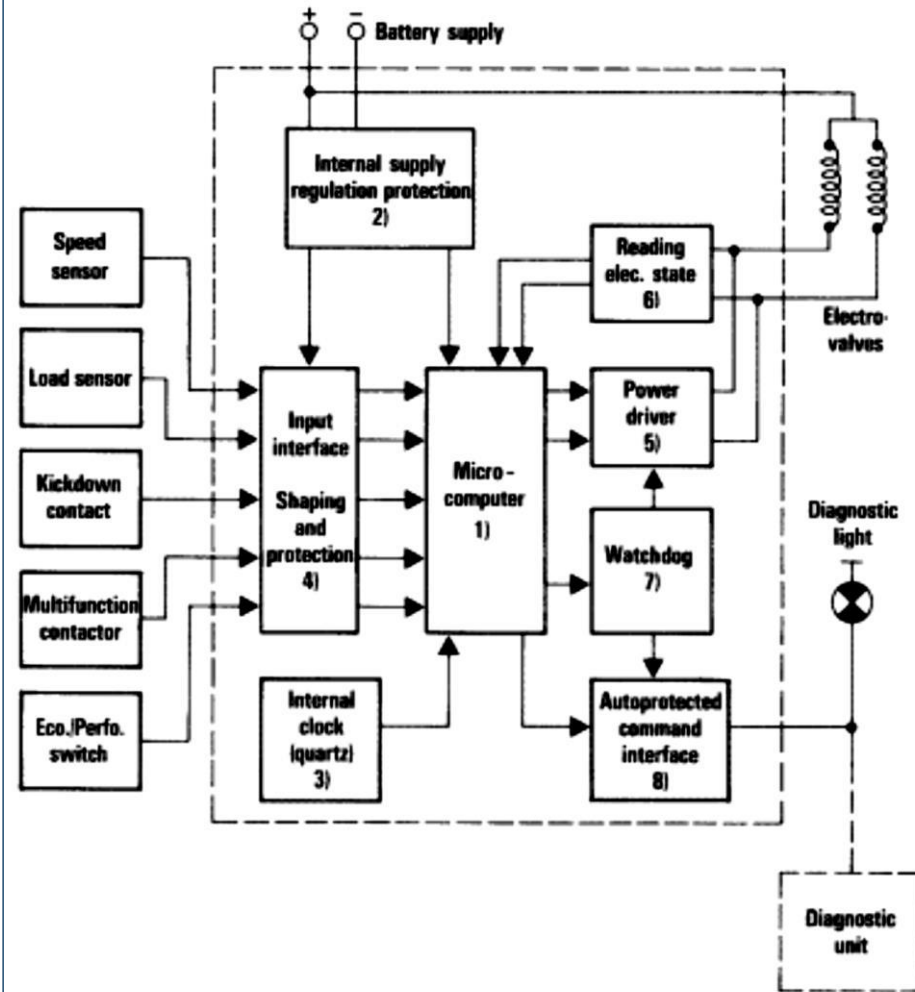

Fig. 2.3 Internal details of the computer
- Figure 2.3 shows some of the internal details of the computer and the following description gives an insight into the way that it operates.